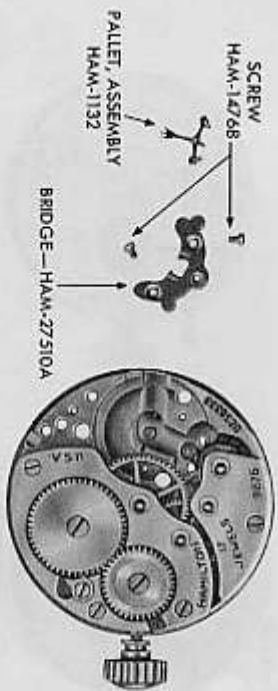

Figure 119 — Hamilton Wrist Watch — Pallet Bridge and Pallet Assembly Removed
- h. Remove Pallet Bridge and Pallet Assembly (fig. 119). Remove pallet bridge screws and pallet bridge assembly. Grasp pallet assembly with tweezers and lift it out of movement.
h. **Replace Pallet and Pallet Bridge (fig. 119).** Replace pallet assembly. Replace pallet bridge assembly, carefully aligning the pallet arbor pivot in its hole. Secure the pallet bridge with the two pallet bridge screws. Check freedom of pallet assembly; then check the action of pallet assembly and escape wheel.